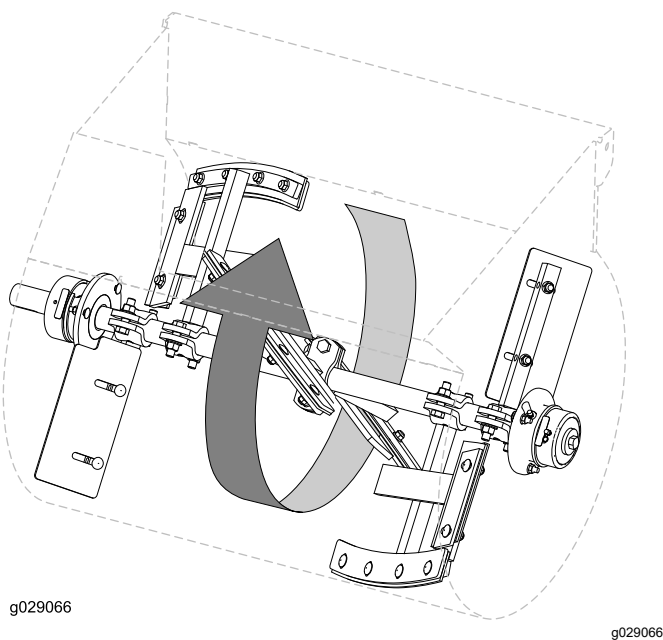

Figure 44
1. Rotate a paddle from the left row of paddles around the drum and locate at the interior of the drum the smallest distance between the drum and the wiper of the paddle (Figure 44).